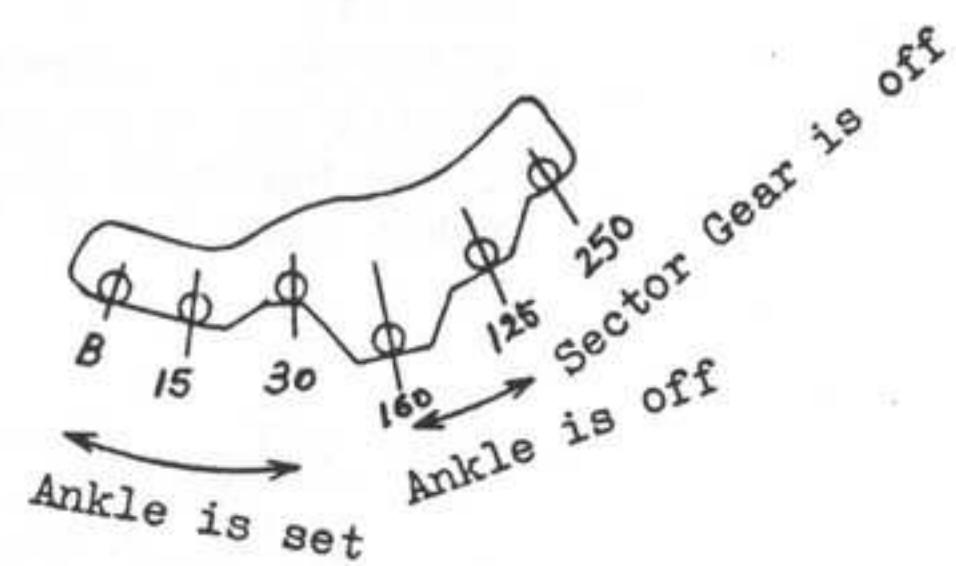

Fig 38
Fig. 38 shows relative position between Shutter speed cam (301) and sector gear drive plate pin. When correct speed can not be obtained, mend it by modifying the shape of cam. Use a jig (K 304013) when testing speed by the shutter speed tester. If shutter assembly is built in the camera, use of a jig is not necessary.